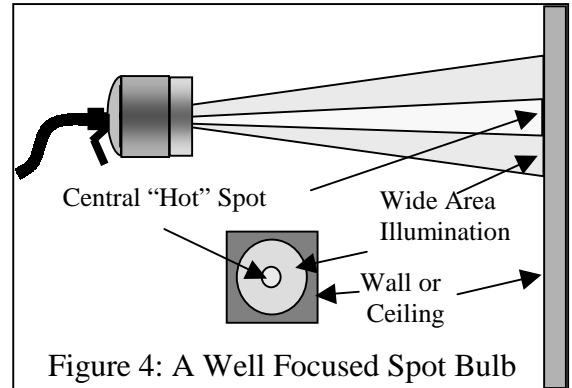

Figure 4: A Well Focused Spot Bulb
- iv. Shine the beam against a wall or ceiling. Hint: Ceiling works well. The light pattern should look like the picture in Figure 4. The hot spot should be 3-4 inches across 5-6 feet from the light.
- v. If the light pattern does not appear as it does in Figure 4, then move the bulb in, out or to one of the sides until the suitable light pattern is reached. Use the bulb extraction tool to pull up if necessary and the wooden handle to push the bulb in or to the side. Note: You may need to remove the bulb and bend the leads if a larger side-to-side adjustment is necessary. See Figure 5. **CAUTION: DO NOT TOUCH LIGHT BULB. SERIOUS BURNS CAN RESULT.**